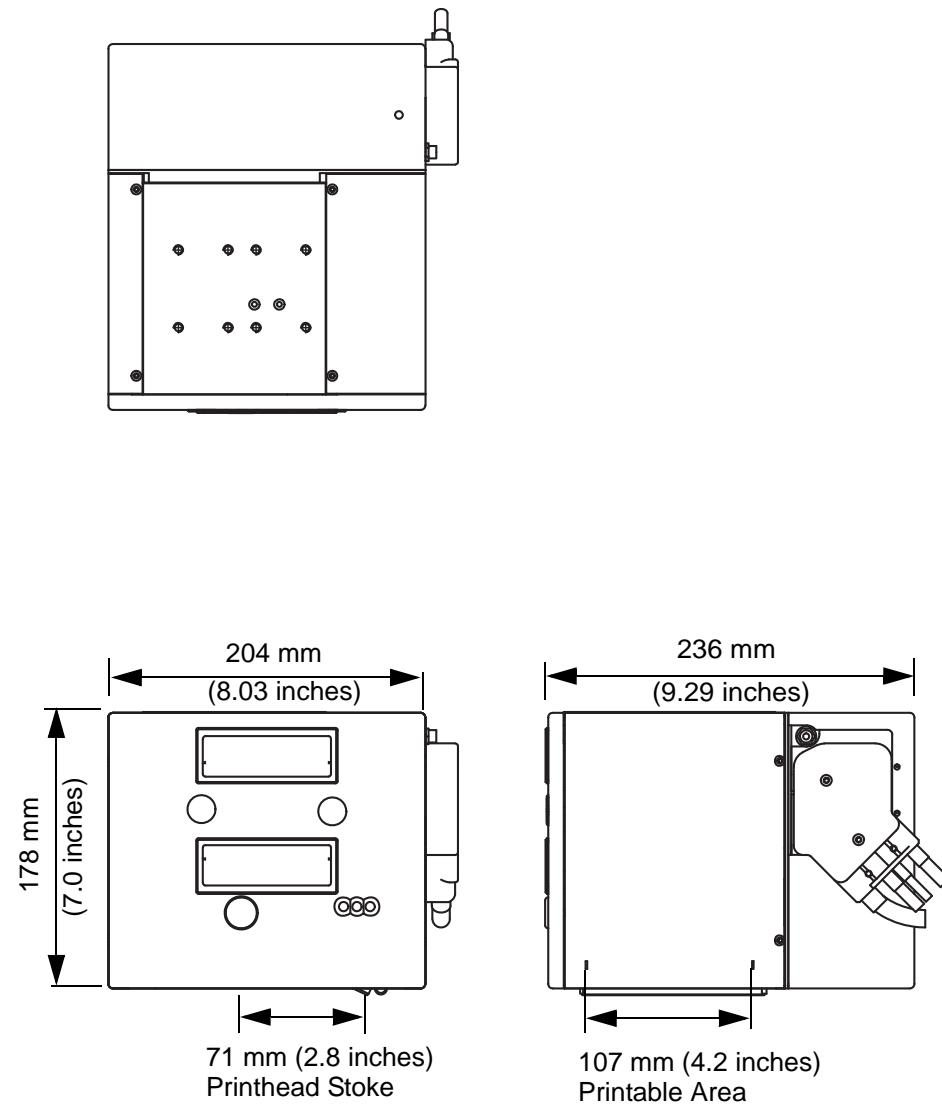

Figure 9-4: 107mm LH Printer Dimensions
Figure 9-4 shows the dimensions of the 107mm (LH) printer.